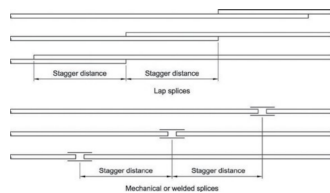

Fig. 5.2.1—Staggered lap splices and staggered mechanical splices.
Source: MNL-66(20) p. 36 (PDF p. 45), Fig. 5.2.1.
Book p. 36 - Fig. 5.2.1: staggered lap splices.